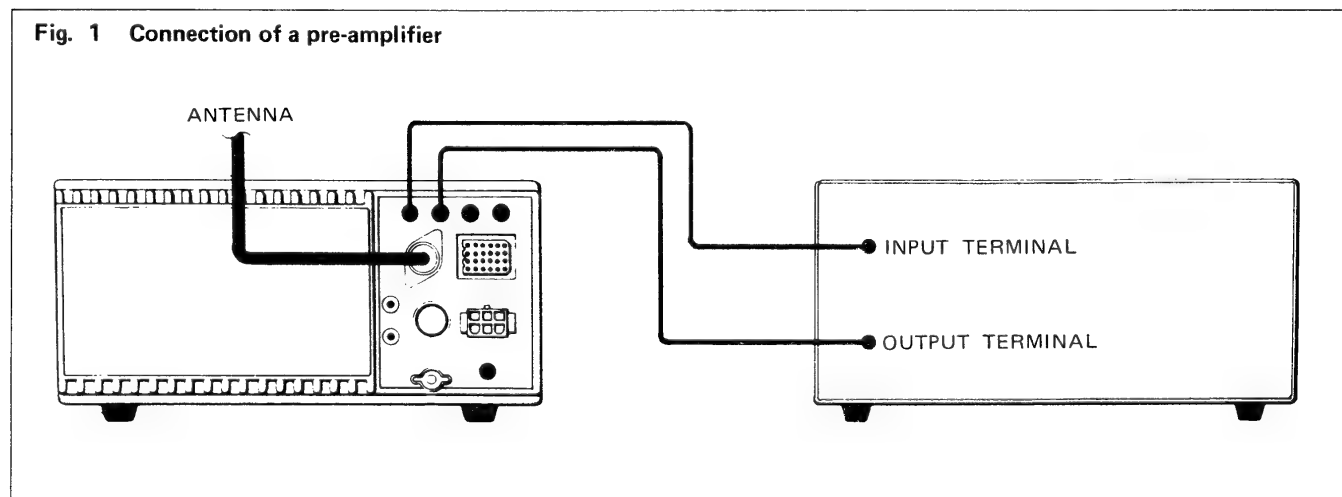

Fig. 2 Connection of a separate receiver (After changing the internal socket)
2. A separate receiver. (Fig. 2)